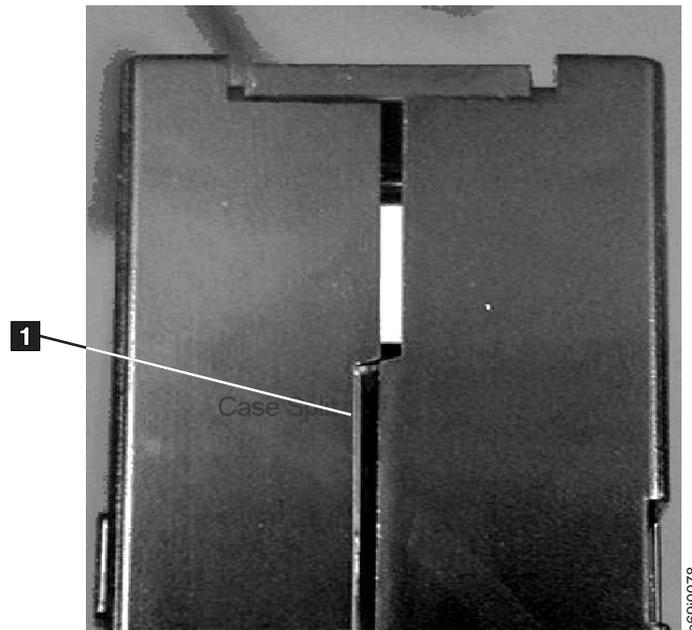

Figure 129. Checking for gaps in the seams of a cartridge
- Inspect the rear of the cartridge (the part that loads first into the tape load compartment) and ensure that there are no gaps in the seam of the cartridge case. If there are gaps in the seam (see Figure 129), the leader pin may be dislodged.